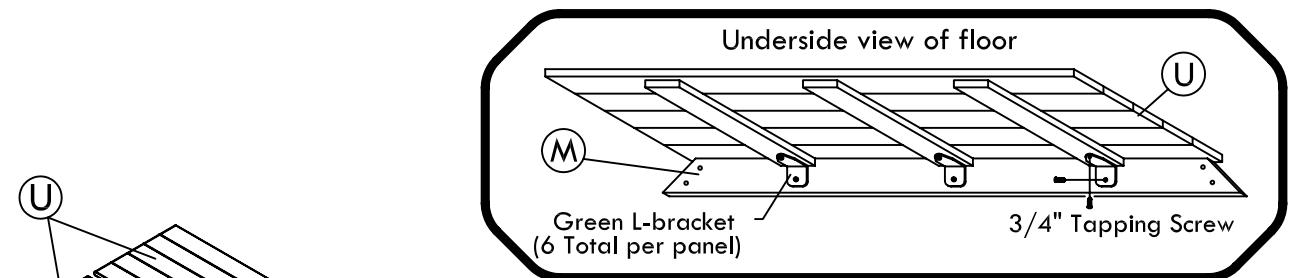

Fig. 3
Step 1: Place Floor Panels 'U' on top of the Angled Floor Supports 'M' and attach with L-Brackets & 3/4" tapping screws as shown in Fig 3. Make sure the floor panel is centered on the fort and has equal overhang on each side.